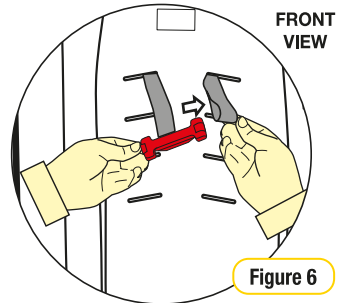

Figure 6
Step 6: Thread the sash guide through the webbing loop (refer Figure 6).